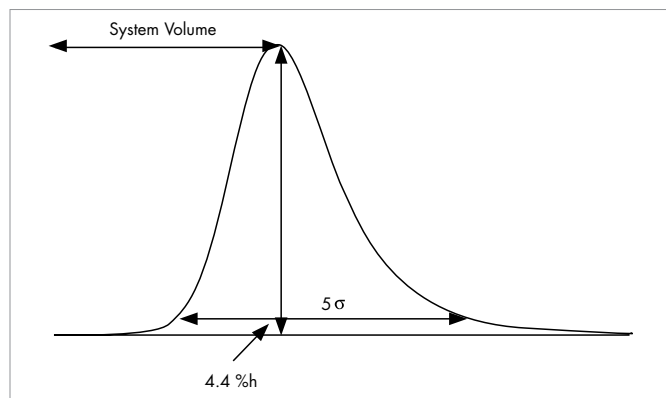

Figure 9. Determination of System Bandspreading Volume Using 5-sigma Method
5. Measure the peak width at 4.4% of peak height (5-sigma method, Figure 9):